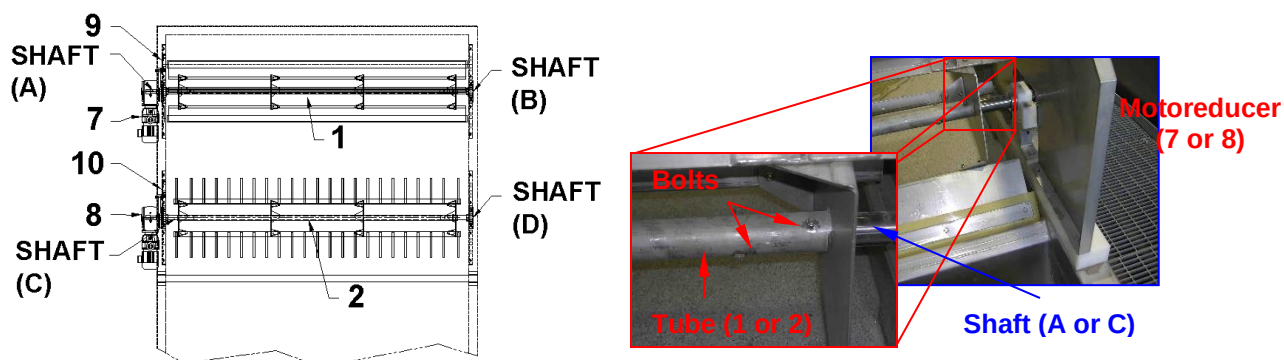

Figure 23 Installation of the transmission shaft
- The transmission shafts (C) and (D) for the thickener must be inserted in the thickener tube (2). The shaft (C) must be installed on the same side as the motoreducers and the shaft (D) must be installed on the other side. Please note that bolts, washers and nuts must be removed from the thickener tube before installation of the shafts. Please refer to **Figure 23**.